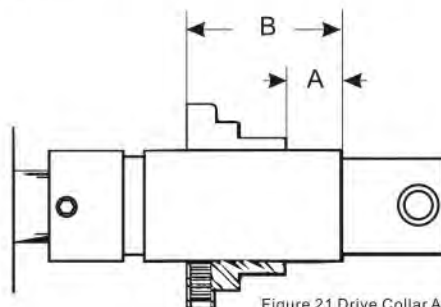

Figure 21 Drive Collar Adjustment
5.1 Slide the seal drive collar onto the stub shaft as shown in Figure 21.
5.4 Install the backplate on the adapter. Check that the seal cup slot is engaged with the pin on the drive collar. (See Figure 21).